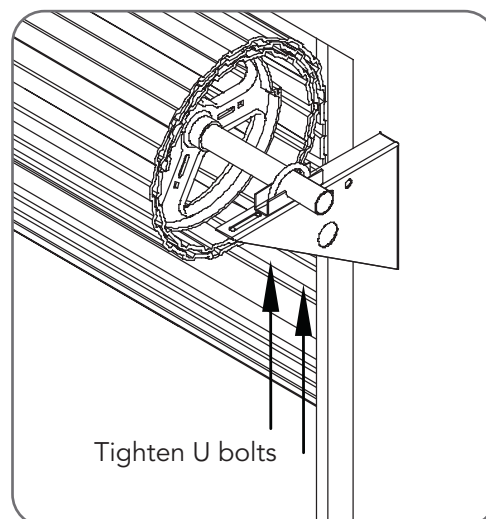

Fig 6.1
- a. At the end opposite to where the opener will be fitted, check that the door axle is tightened to the bracket securely. (**Fig. 6.1**)